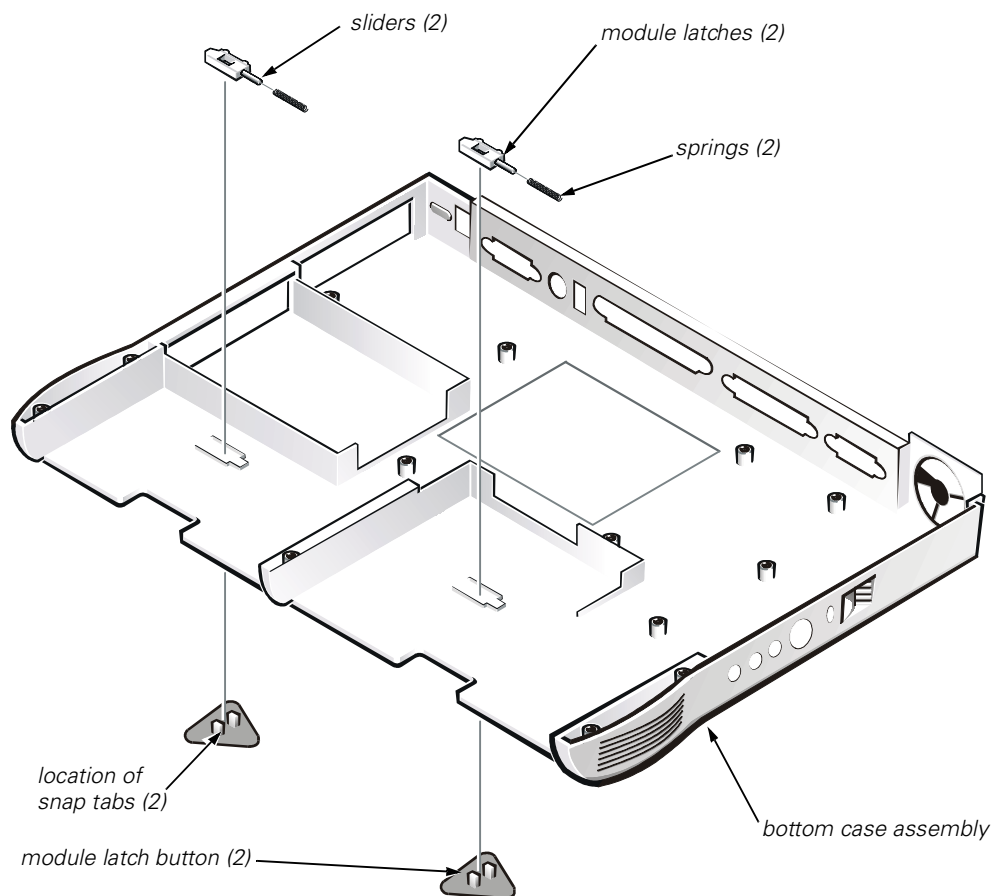

Figure 20. Module Latch Assemblies Removal
9. Remove the two 4-mm screws securing the thermal cooling assembly and exhaust fan, and then remove the thermal cooling assembly and exhaust fan (see Figure 20).